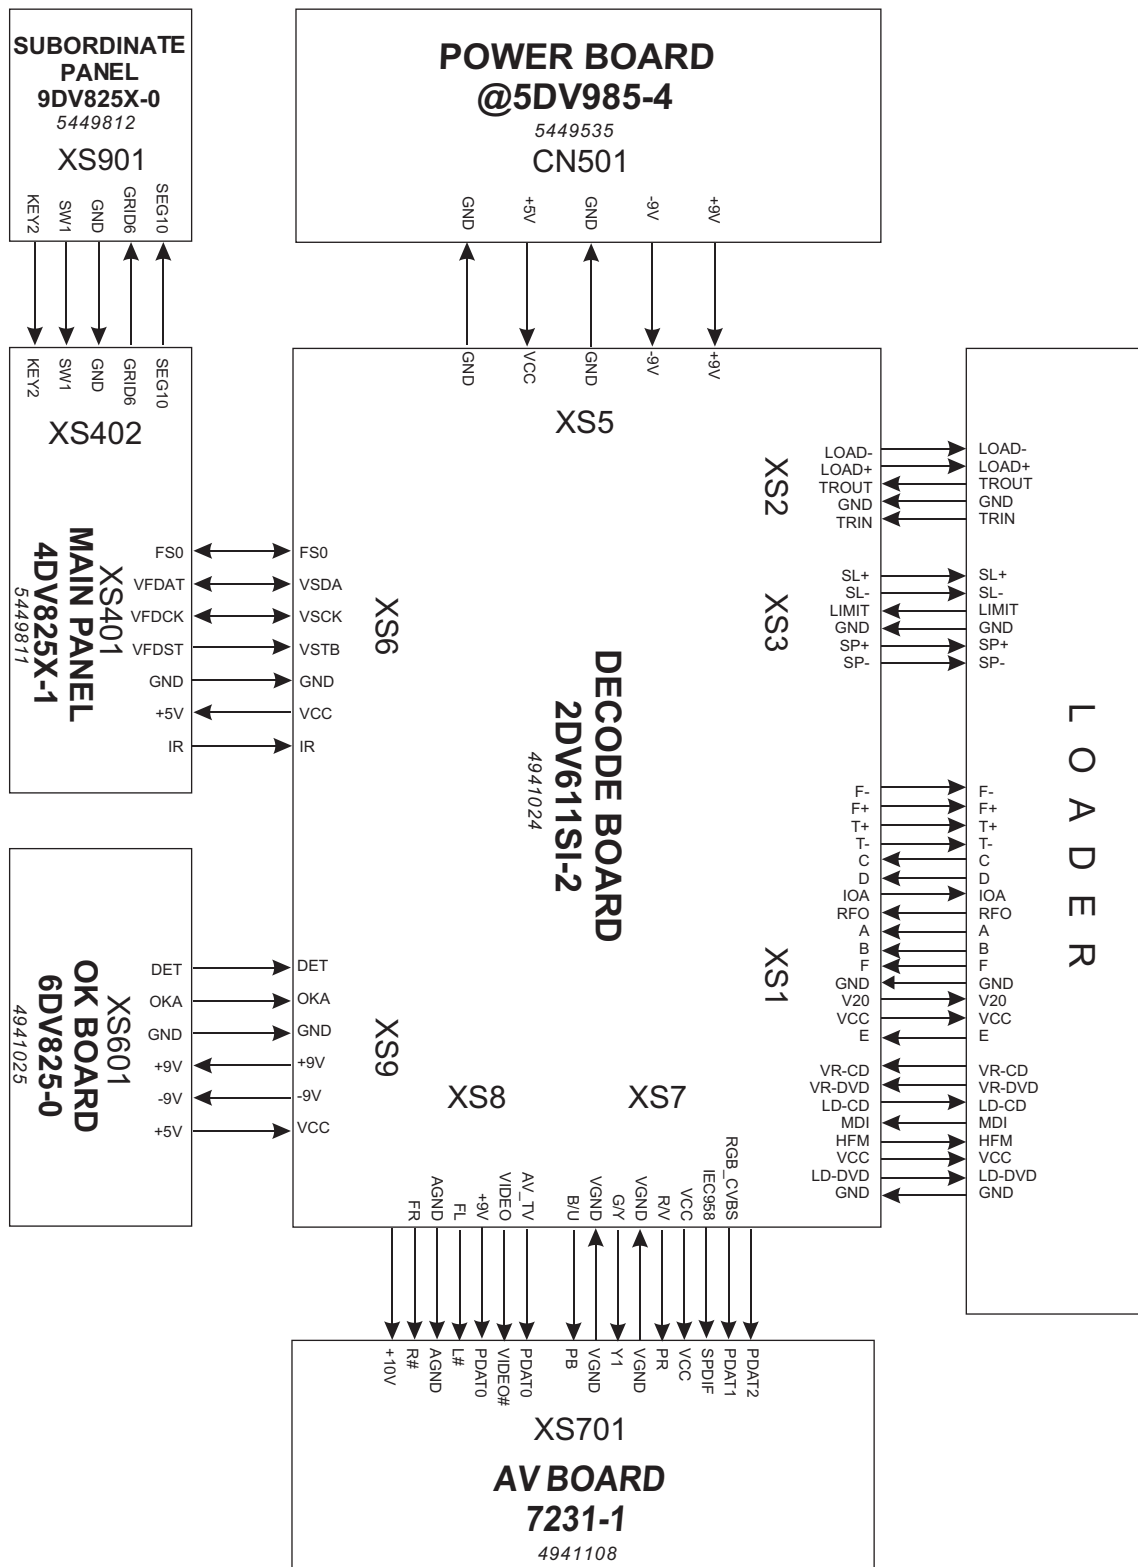

Figure 3.1.3 Diagram for PCB wire of DV823X(RU)
PCB board wire diagram of DV823X(RU) machine is shown in figure 3.1.3.